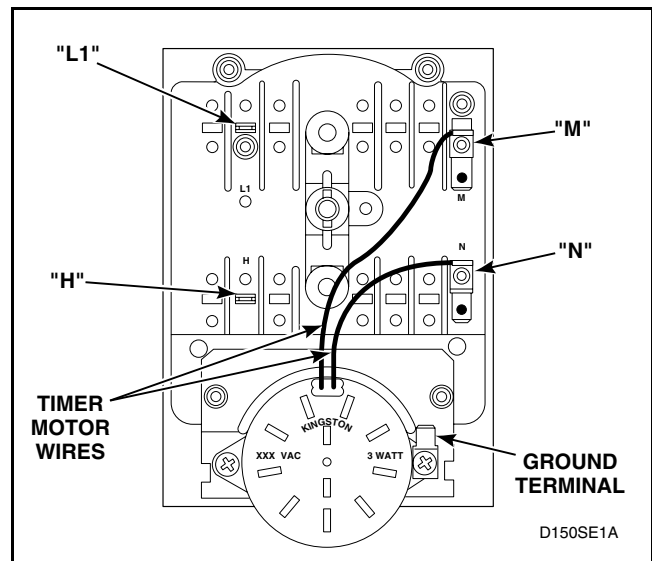

Figure 16
- Disconnect wires from timer, except timer motor wires. Refer to *Figure 16*.